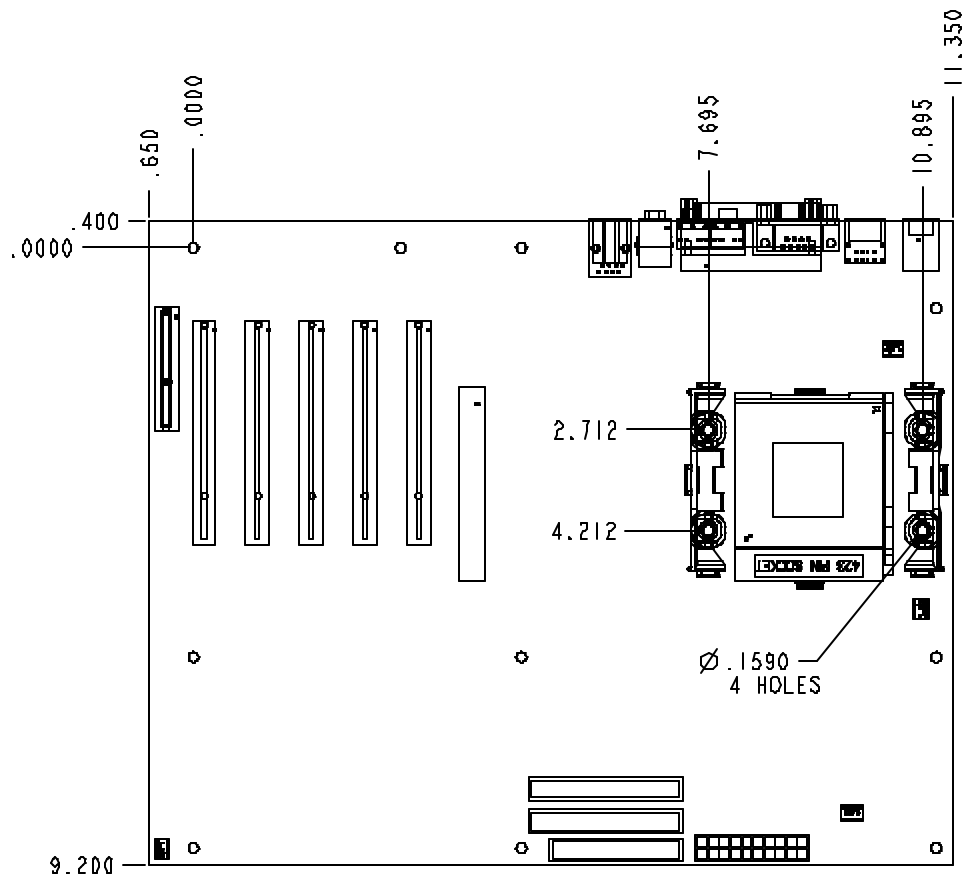

Figure 2. ATX Motherboard Hole Locations for Direct Chassis-Attach
The retention mechanism should be located in relation to the ATX mounting holes as shown in Figure 2 to allow for direct attachment to the chassis. The two-piece enabled retention mechanism cannot be pre-attached to the motherboard. Therefore, motherboards intended for use by system integrators should supply two (2) retention mechanisms and two (2) heatsink clips with each board. Intel boxed processors will not include these components. ATX chassis will provide four (4) removable standoffs and four (4) screws that will attach the retention mechanisms and motherboard to the chassis.